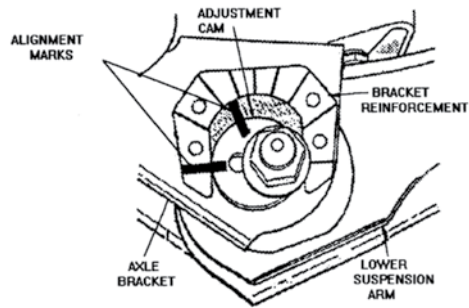

Figure 2
6. 1997 model TJ only: Mark the position of the alignment cam adjusters located at the end of each front lower control arm at the axle (Figure 2).